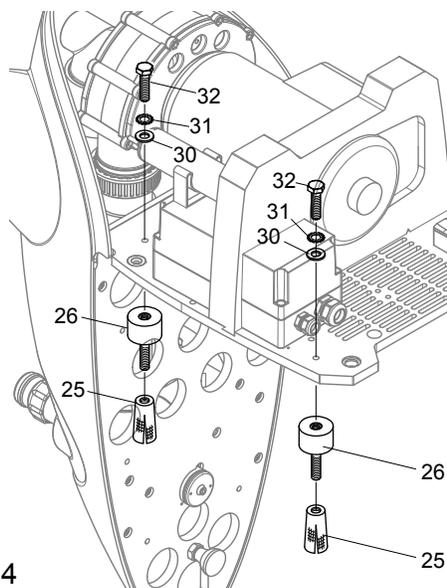

Figure 4
7. Place the unit on the rubber mounts or on deck if rubber mounts cannot be used. Install the 8.4 x 24mm washer (part# 30), 8.4mm lock washer (part# 31), and bolts. If using the rubber mounts, install M8 x 25mm hex-head bolts (part# 32). If you are not using the rubber mounts, install the M8 x 40mm bolts. (*See Figure 4*)